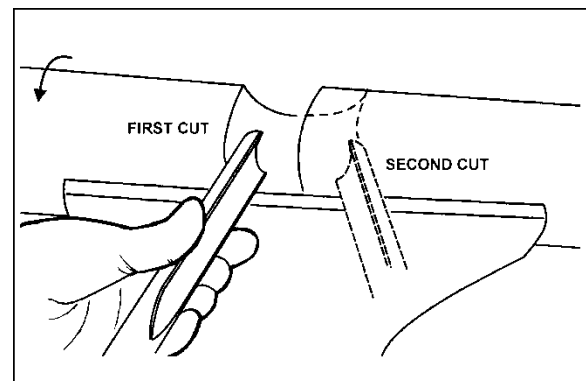

Figure 10-7: coves
1. Use a spindle gouge. With the flute of the tool at 90 degrees to the workpiece, touch the point of the tool to the workpiece and roll in towards the bottom of the cove. See Figure 10-7. **Stop at the bottom; attempting to go up the opposite side may cause the tool to catch.**